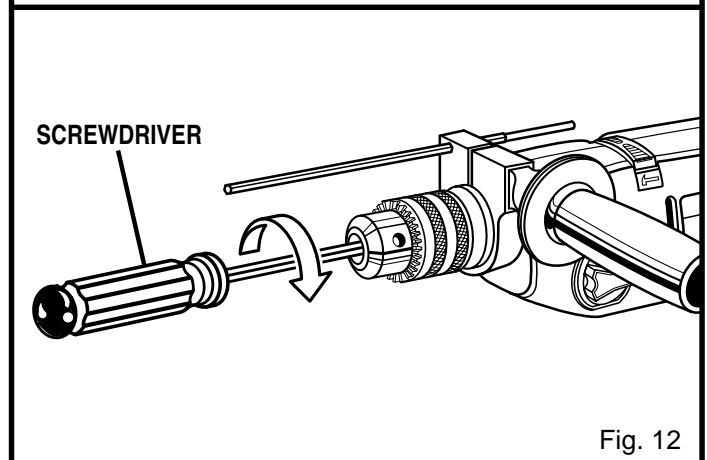

Fig. 12
- Open the chuck jaws and remove hex key. Remove the chuck screw by turning it in a clockwise direction. See Figure 12.
NOTE: The chuck screw has left hand threads. See Figure 12.